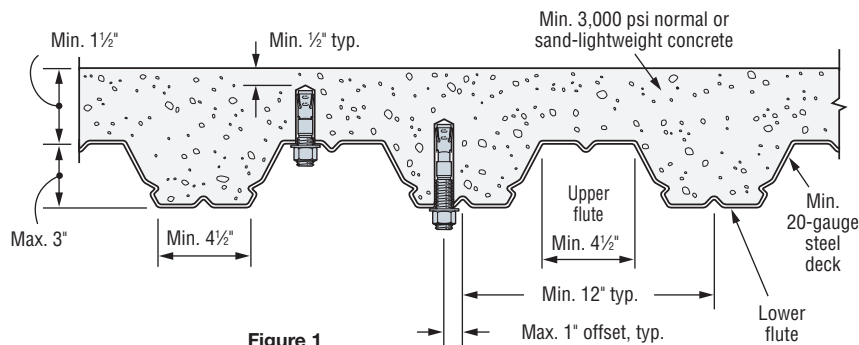

Figure 1
7. Installation must comply with Figure 1.